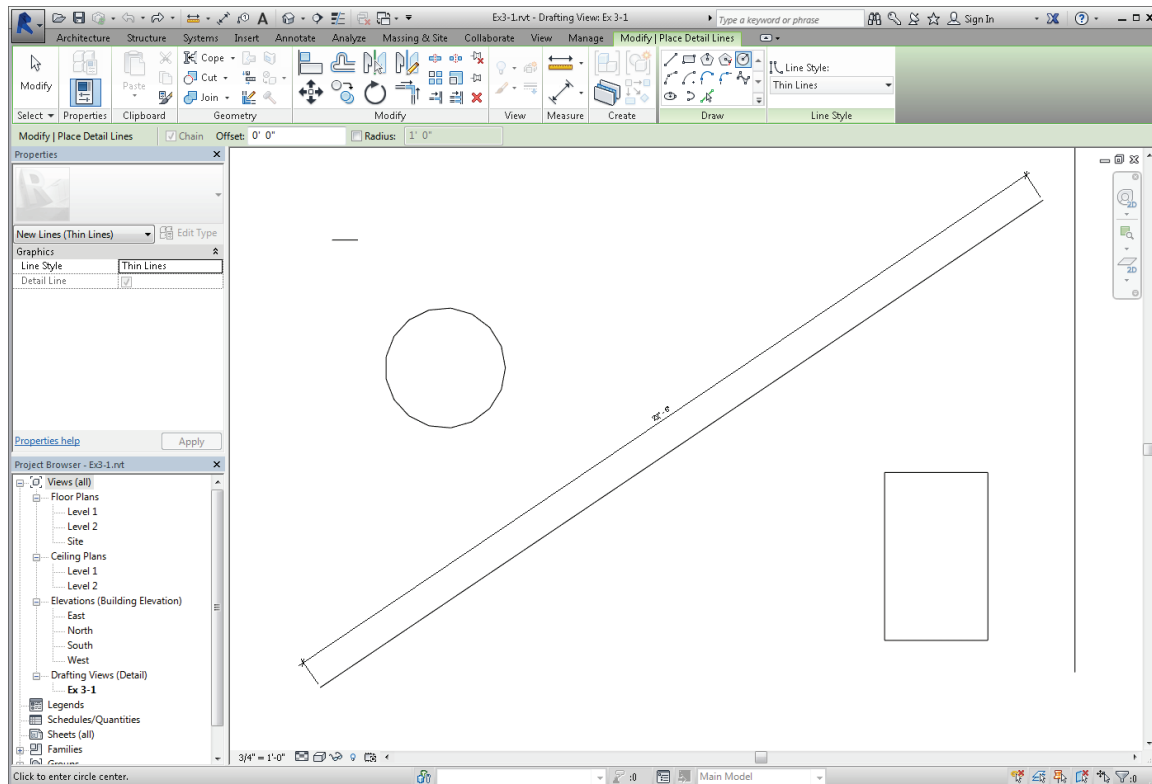

FIGURE 3-1.17 Drawing with Rectangle and Circle added
42. Type **1 6 5/8** and then press **Enter** (Figure 3-1.17).